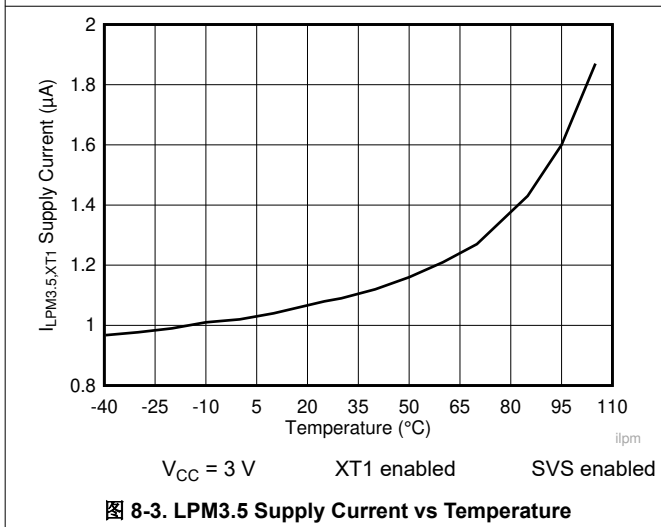

图 8-3. LPM3.5 Supply Current vs Temperature
| $I_{LPM3.5, XT1}$ | Low-power mode 3.5, 12.5-pF crystal, includes SVS ^{(1) (2) (3)} (also see Figure 8-3) | 3 V | 0.60 | | 0.66 | | 0.96 | | 1.41 | 2.95 | μA |